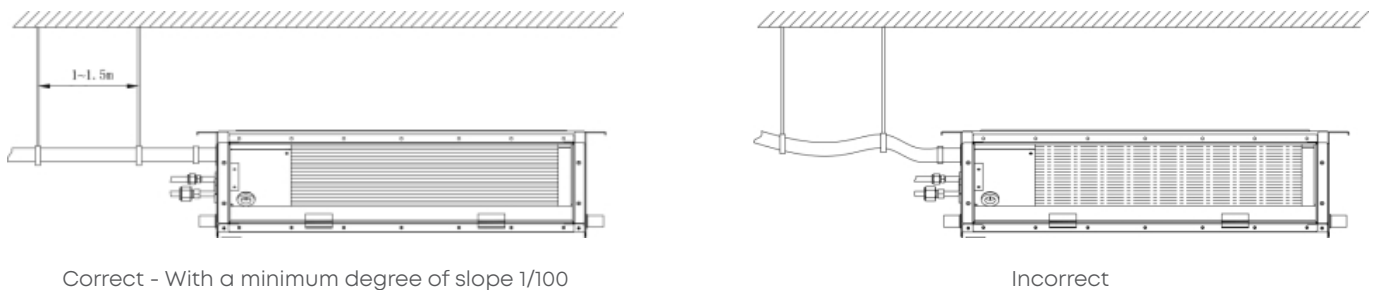

Figure 14: Correct Condensate Drain Pipe Design and Installation
5. A maximum distance of 1-1.5m should be kept between the hangers to avoid the drain hose sagging (see Figure 14).